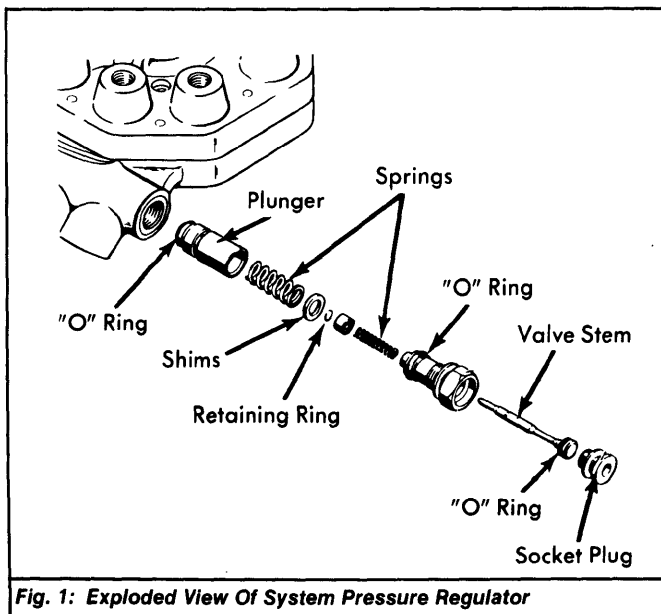

Fig. 1: Exploded View Of System Pressure Regulator
**1977-79 Models** – 1) Relieve system fuel pressure. Remove and plug fuel return line at fuel distributor. Remove pressure regulator from fuel distributor. Use care to avoid losing compression spring and shims. See Fig. 1. If regulator plunger sticks, plunger can be removed with magnet or a pencil.